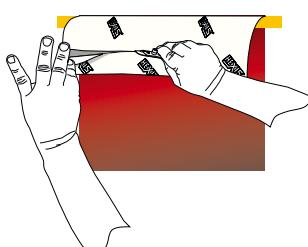

Figure 05
- › Make a slit with the SHAGCUT in the liner, at a distance of about 10 cm (4 in.) from the edge, then remove the upper part. (FIG. 05)